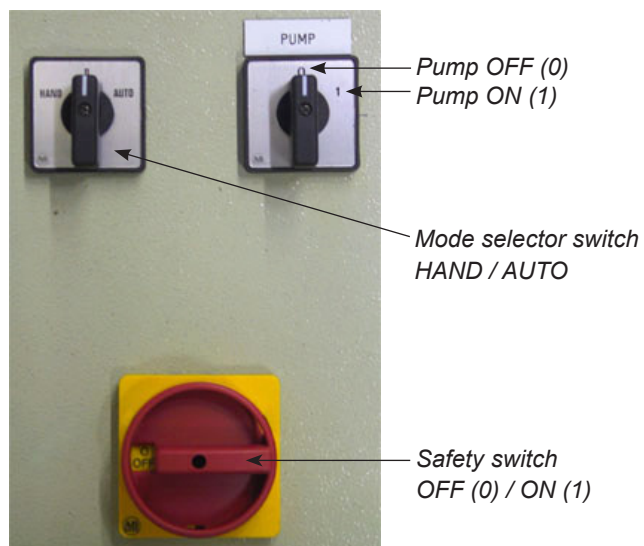

Figure 1.7 Switches of the control cabinet (optional)
- Before maintenance, set the safety switch (see Figure 1.7) to OFF and lock it in the OFF position by means of a padlock.
The filter is equipped with a safety switch (see *Figure 1.7*). In an emergency shutdown situation, set the safety switch to OFF (0).